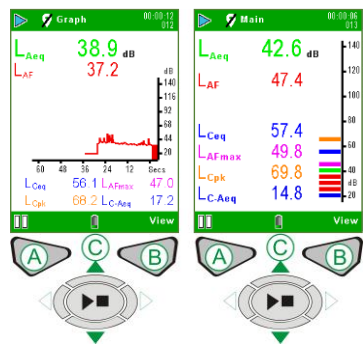

Figure 12 Main/Graph Screen.
**620 SERIES A model (Refer to Figure 12).** The broadband values can be viewed as a bargraph on the Main screen, or as a graphical time history on the Graph screen. Pressing the **View** key (B) toggles between Graph and Main screens.
The 620 SERIES B model will display all of the screens shown in Figure 12 and 13.